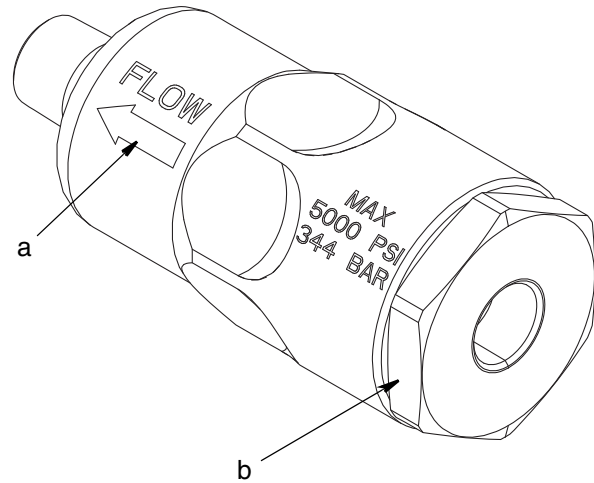

FIG. 1
Install filter with flow arrow (a) pointing in the direction the grease flows through the system as shown in FIG. 1.
3. Use a wrench to remove nut (b) (FIG. 1).
6. Insert new filter (1) and new o-rings (2 and 3).
7. Replace nut (a) (FIG. 1). Torque to 40 ft. lb  $\pm$  10 ft. lb (54 N.m  $\pm$  13.5 N.m).